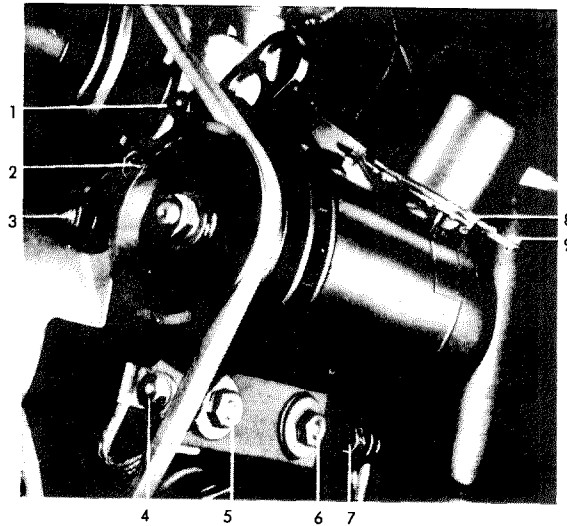

Fig 50–5/1
2. In order to adjust or re-tension the fan belt slightly slacken the fixing screws (4) and (7) on the generator bracket under the generator, the clamping screw (2) and the hexagon nut (3) (Fig. 50–5/1).
4. Tighten the fixing screws (4) and (7), the hexagon screw (2) and the hexagon nut (3) (Fig. 50–5/1).
and remove the screw. Slacken the fixing screws (4) and (7), the clamping screw (2) and the hexagon nut (3) (see Fig. 50–5/1), so that the generator can be moved toward the engine far enough for the belt to be easily removed and put on.